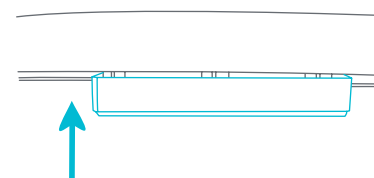

Fig. 12b
- **REATTACH:** Push the stopper into the housing completely (Fig. 12b). Ensure to apply enough pressure when inserting the stoppers.